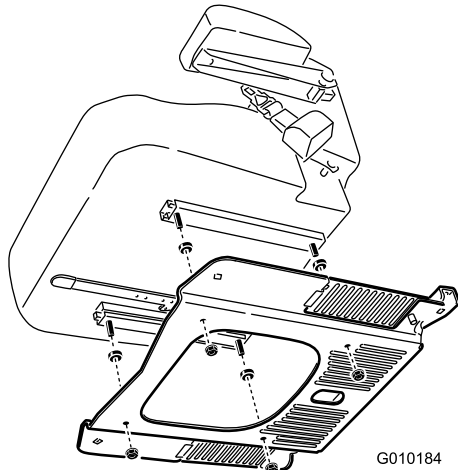

Figure 2
- Remove the seat plate from the seat by removing the spacers and flange nuts (Figure 2).